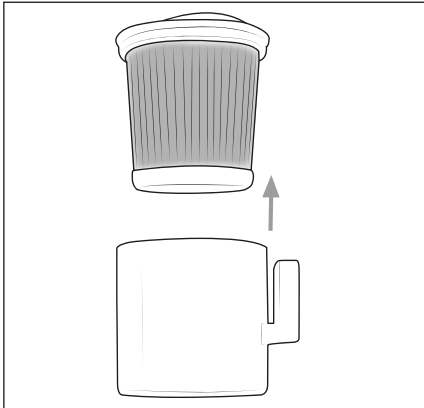

Fig. 17
4) If you have removed the dust container **7**, you can take the HEPA filter holder **5** out of the appliance. Remove the HEPA filter **4** from the HEPA filter holder **5** by reaching into the opening of the HEPA filter **4** and pulling it out of the HEPA filter holder **5** (see Fig. 17).